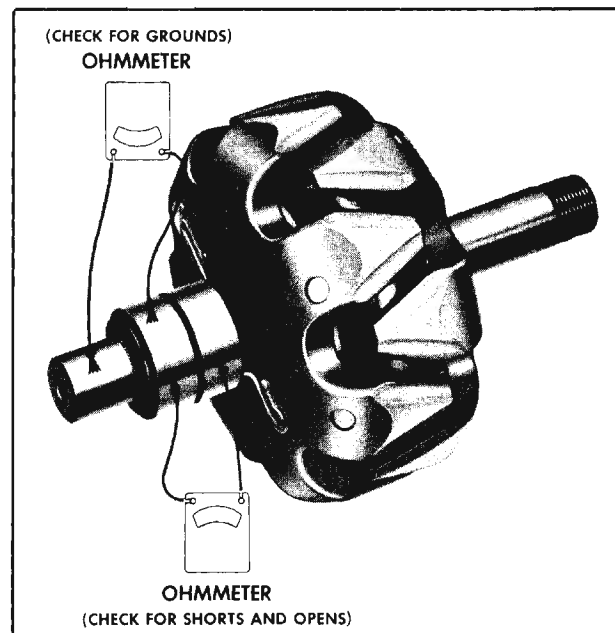

Fig. 14-18 Checking Rotor
slip ring to the rotor shaft or poles. If the lamp lights or the ohmmeter reading is low, the field winding is grounded and the rotor must be replaced. (Fig. 14-18)
- B. To check rotor for opens, connect the test lamp or an ohmmeter lead to each slip ring. If the test lamp does not light or no reading can be obtained on the ohmmeter, the field winding is open and the rotor must be replaced. (Fig. 14-18)